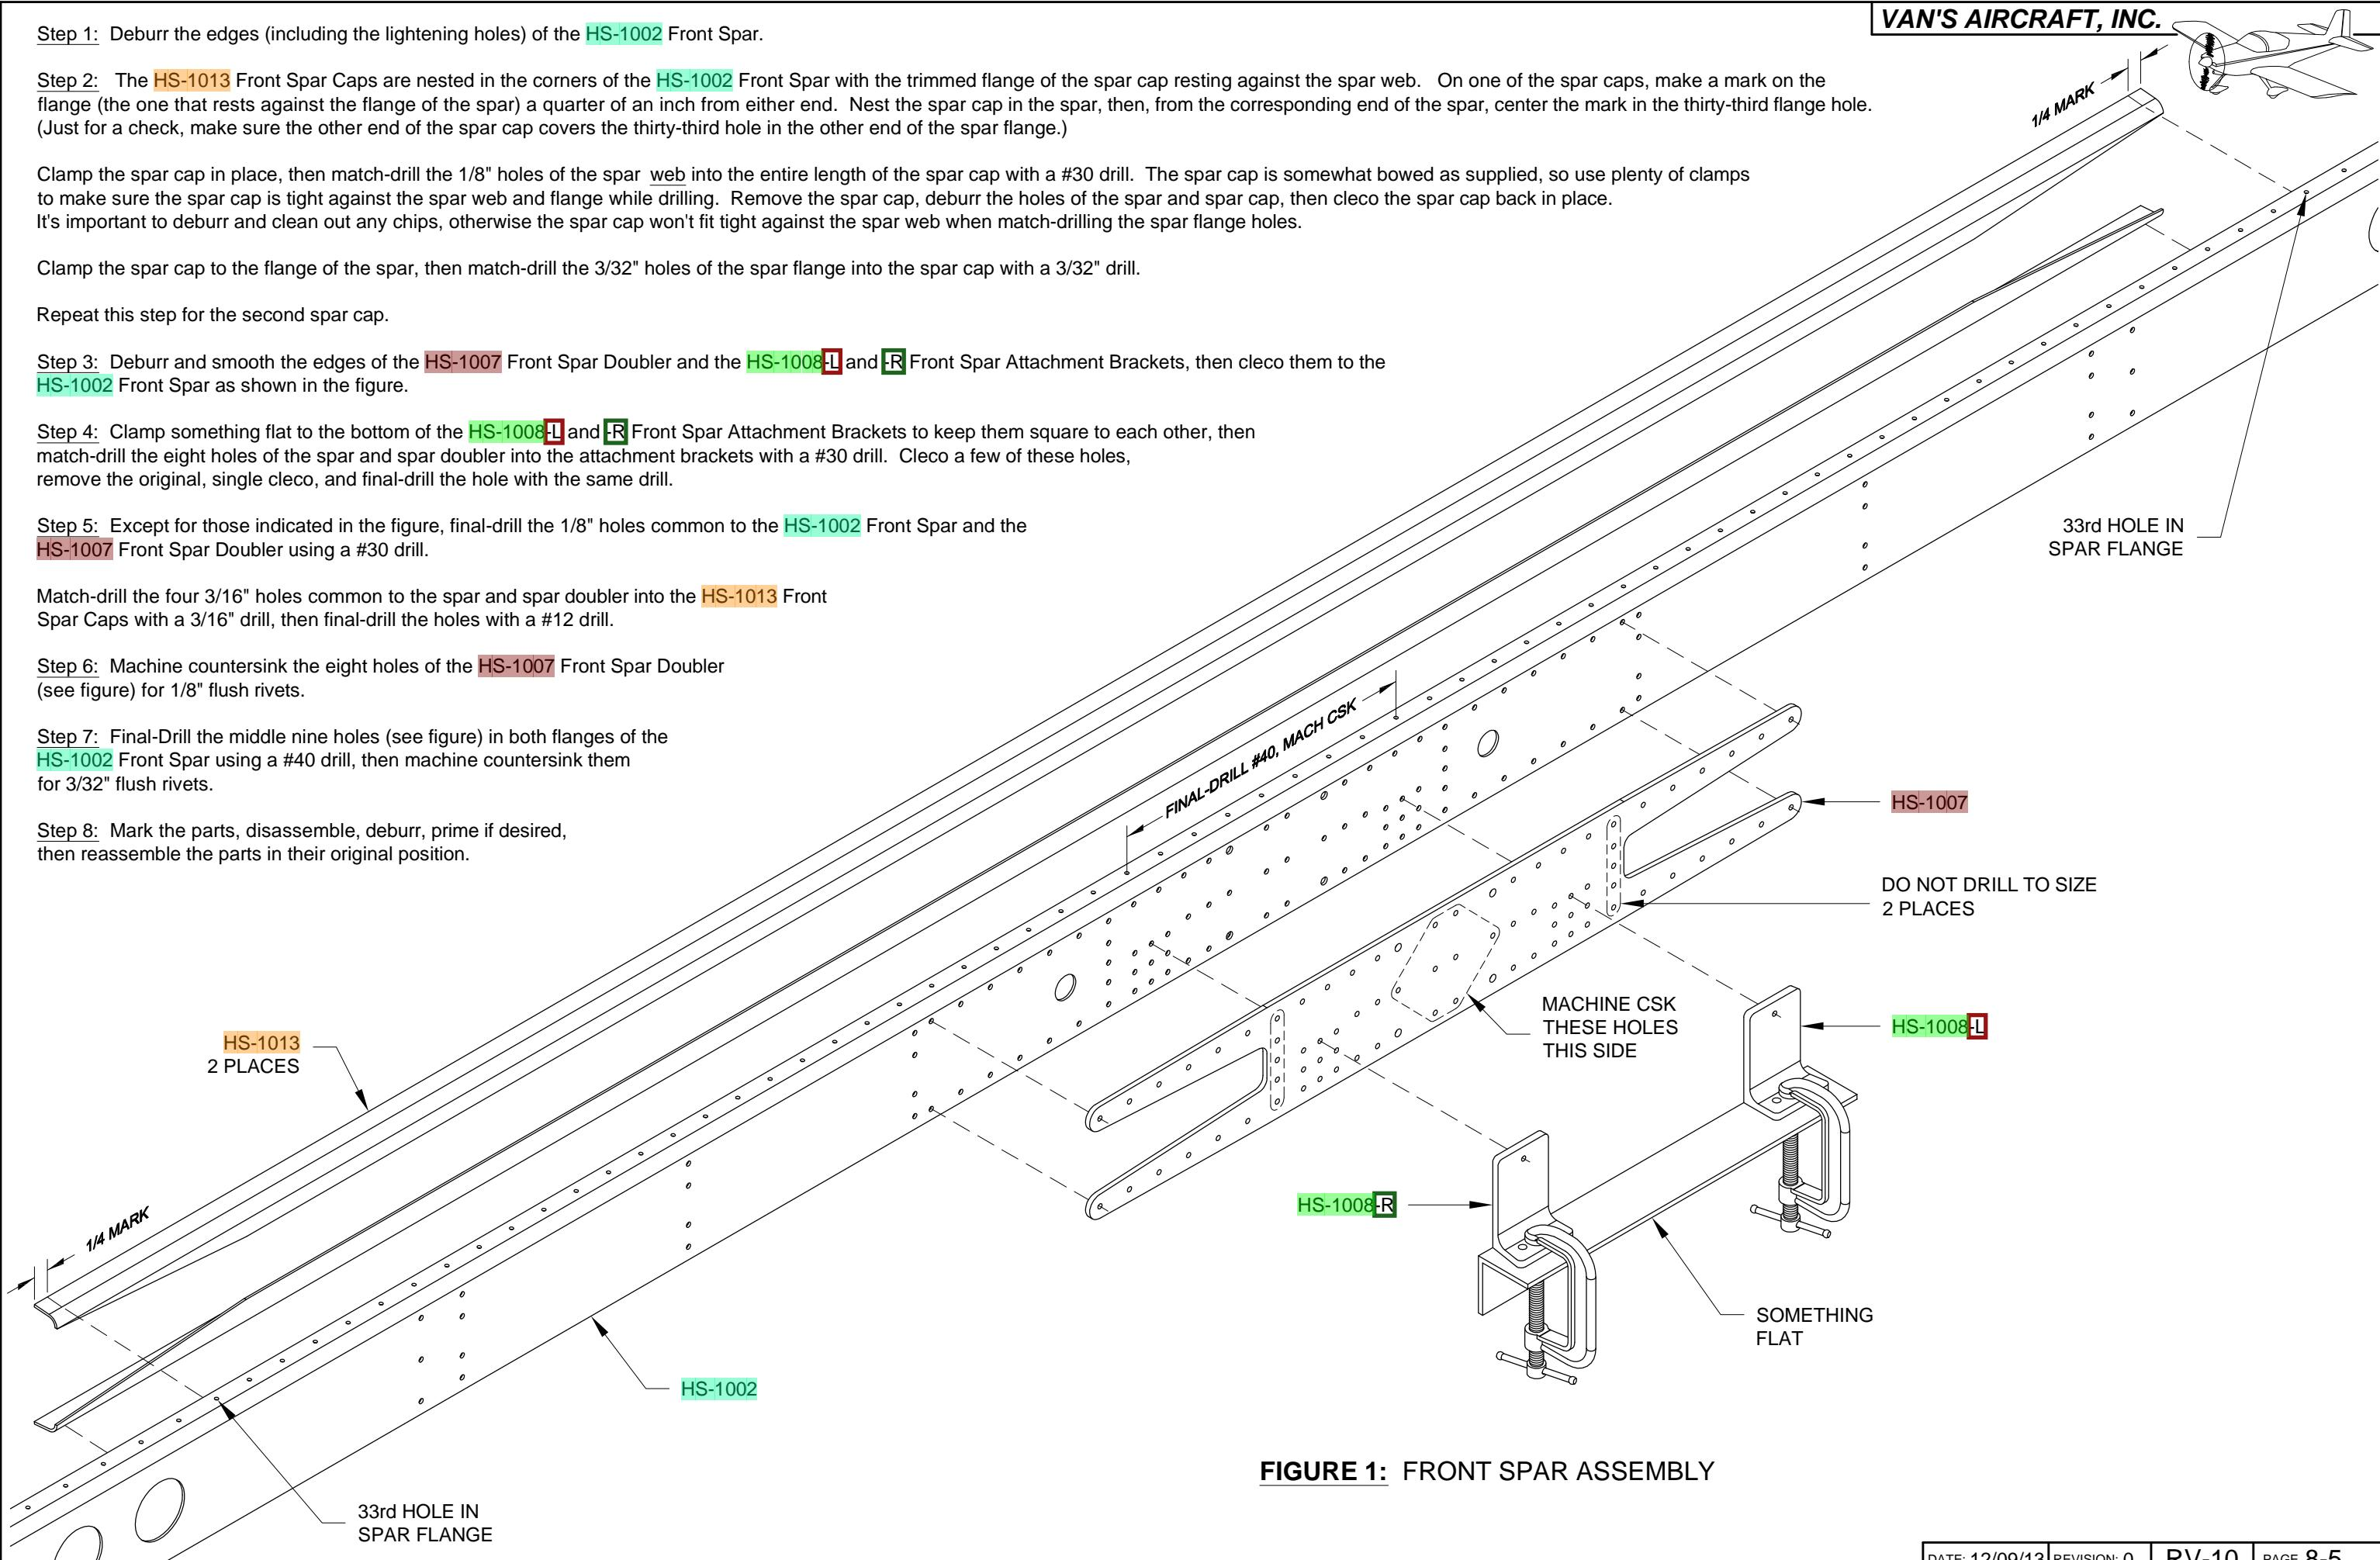

FIGURE 1: FRONT SPAR ASSEMBLY
Step 1: Rivet together the HS-1002 Front Spar, the HS-1007 Front Spar Doubler, the HS-1013 Front Spar Caps, and the HS-1008-L and HS-1008-R Front Spar Attachment Brackets using the rivets shown in Figure 1. Install only the rivets shown in the figure. Tape over the open holes to keep yourself from accidentally riveting them.